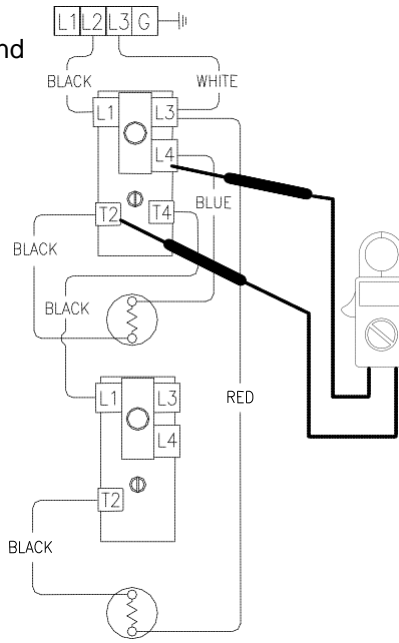

Figure 6
4. Check across terminals L4 and T2 of upper thermostat (see Figure 6).
4. See Figure 6 above. Check voltage across terminals L4 & T2 of upper thermostat.